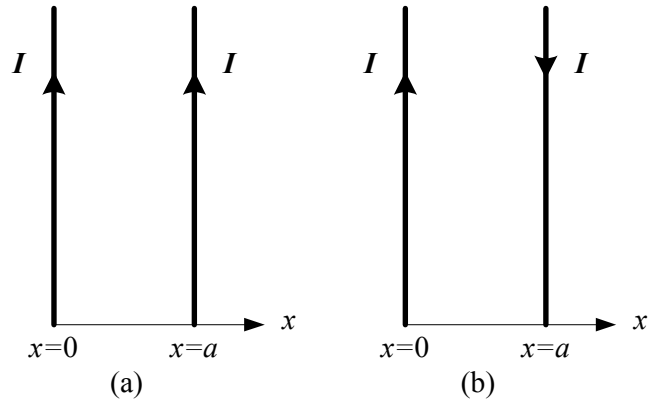

Figure 2: Two parallel straight conductors with
where *a* is the distance between the conductors. Equation (2) applies to the case when the currents flow in the same direction and equation (3) applies when the currents flow in the opposite directions as shown in figures 2 (a) and (b) respectively.